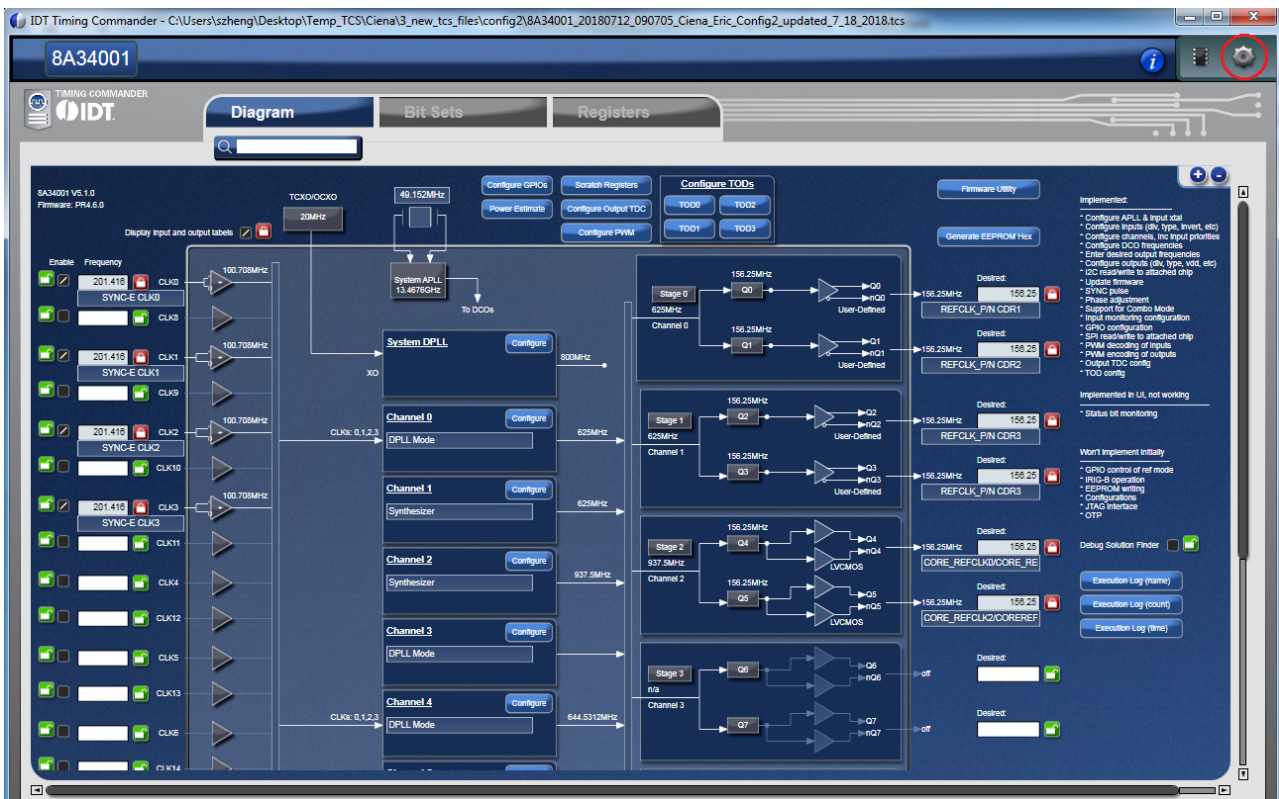

Figure 8. Timing Commander GUI with a Settings File Opened
- The GUI window with the 8A34001 block diagram will open for configurations; or if “Open Settings File” is selected in Step 3, you will be prompted to browse and select an existing .tcs file and the personality file. When the configuration file is open, all configured values will be displayed (see Figure 8).
- In order to connect the board with Timing Commander (PC), click the button (red circle) at the up-right corner of the GUI to set up the communication protocols (see Figure 8).